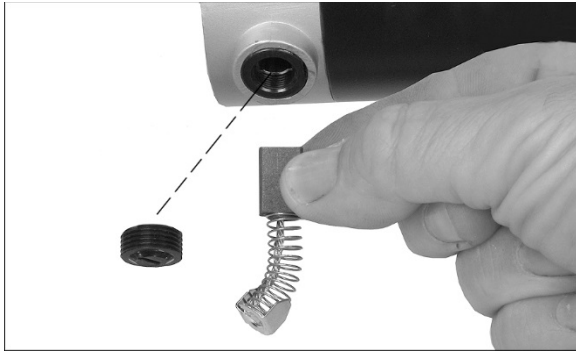

Figure 28
2. Unscrew cap (Figure 28) using a screwdriver or coin and withdraw brush.